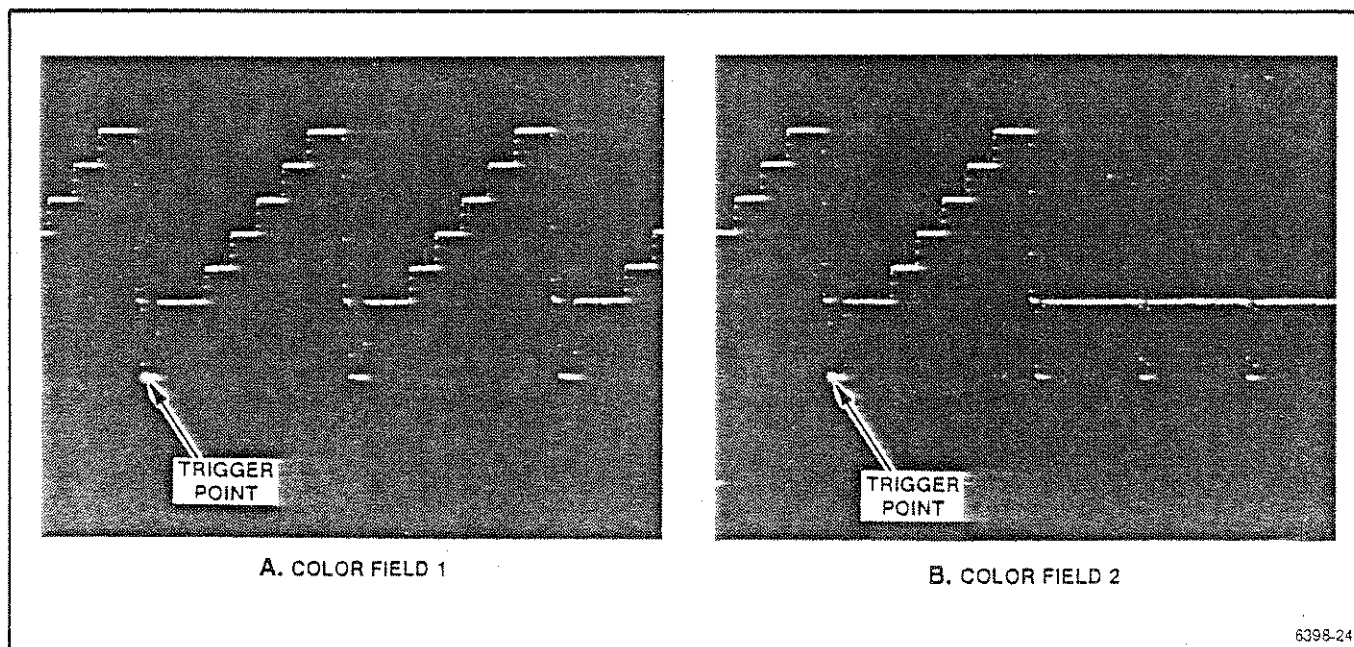

Fig. 4-26 Trigger point displays for TV trigger check
c. **CHECK** that the trigger point (first intensified dot) on the Monitor display is in the front porch on the TV Line Sync (Figure 4-26).